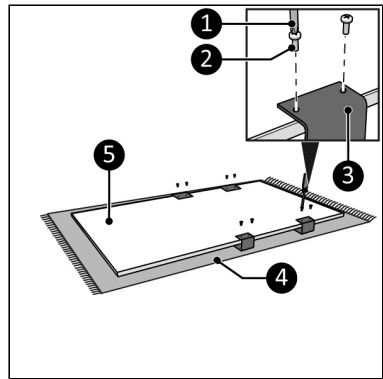

Figure 8.
8. Lay the device down on a soft steady surface (Figure 8, pos. 4).
9. Place the two towel rails (Figure 8, pos. 3) on two of the three possible locations on the main body (Figure 8, pos.).
10. Screw and tighten the two towel rails (Figure 8, pos. 3) with eight small screws (Figure 8, pos. 2) using a Philips screwdriver (Figure 8, pos. 1).